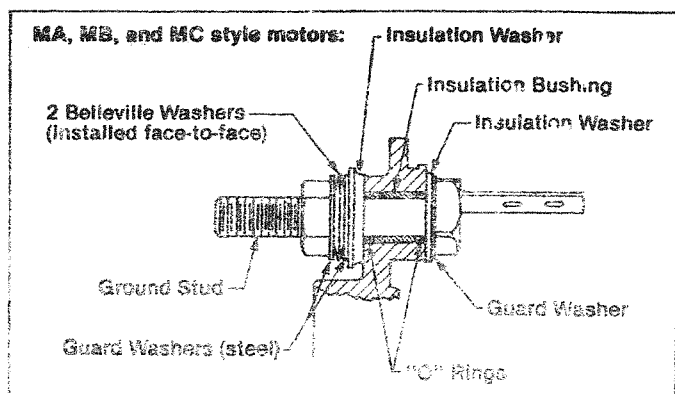

Figure 18
- 1.2 Slide guard washer and insulation washer on the ground stud and insert it in the CE housing. Align the ground stud with the markings made at disassembly and complete installation as shown in figure 18. Torque nut to 33-37 lbs. ft.